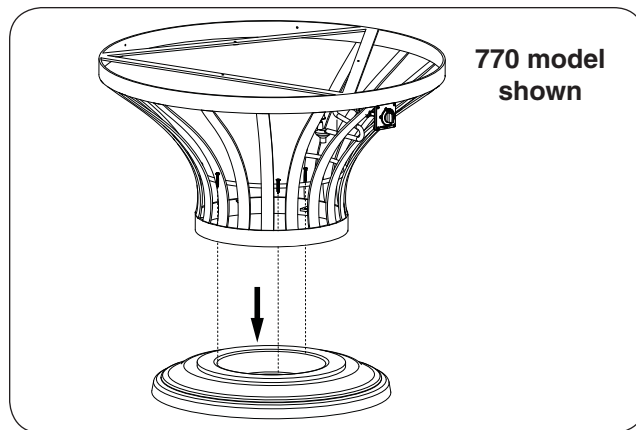

Fig. 22-1 Place base and fasten
1. **CAREFULLY** place the base bottom and base in an appropriate location (see Fig. 22-1, and refer back to the LOCATION section if needed).
2. Use a Phillips screwdriver and the supplied concrete screws (3) to fasten the base bottom to the base as shown in Fig. 22-1.